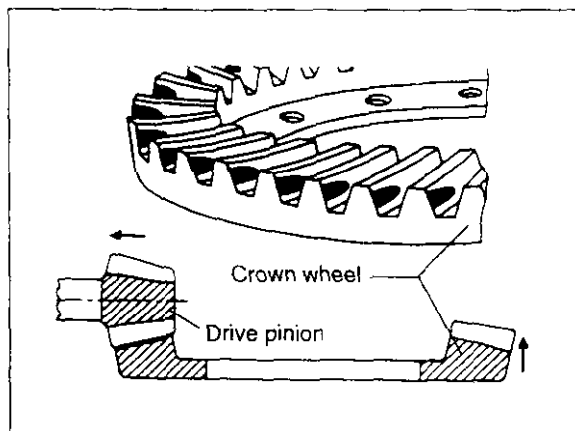

Fig. 2-370
- c. Adjusting contact condition at the heel (Fig. 2-370).